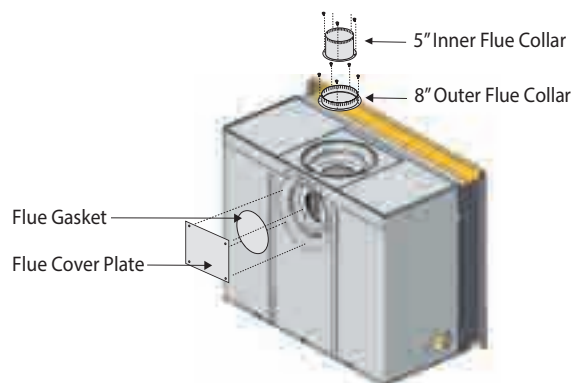

Figure 9. Flue cover and collar removal, Top Vented fireplace.
outlet, as shown in Figure 9.
1. Remove the Rear flue cover and gasket (5" and 8") on the flue outlet, as shown in Figure 9.